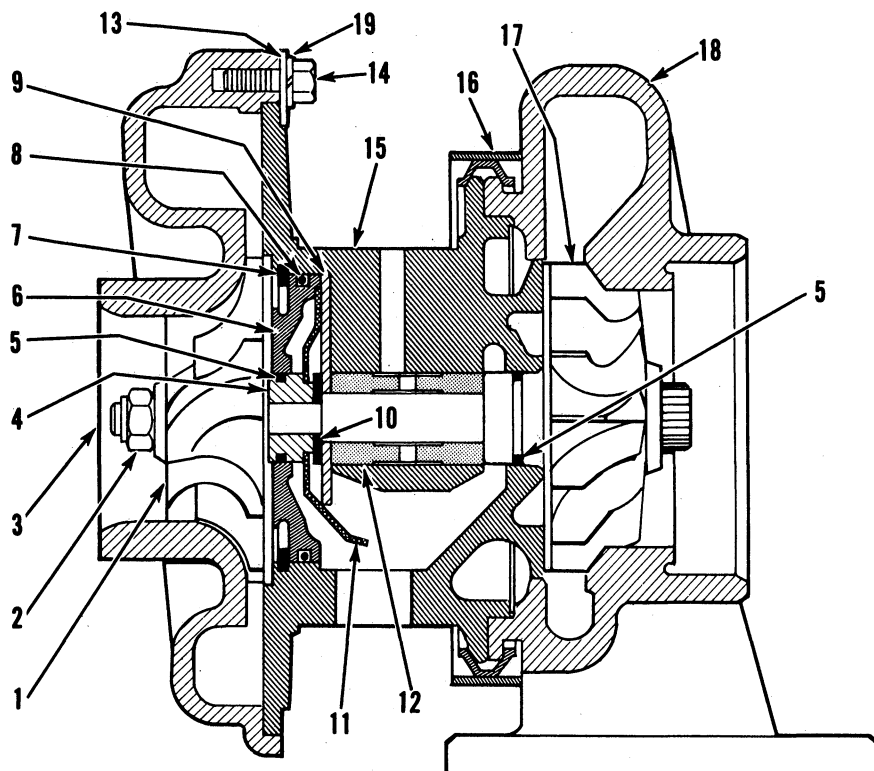

Fig. 65—Cross-sectional view of Schwitzer 3LM turbocharger showing component parts. Refer to Fig. 66 legend for parts identification.
The turbocharger consists of three main sections: compressor (1—Fig. 65), bearing housing (15) and turbine (17). Engine oil is circulated through the bearing housing. This oil lubricates the sleeve type bearing (12) and also acts as a coolant for the hot turbine shaft. The seal rings (5) used at each end of the shaft